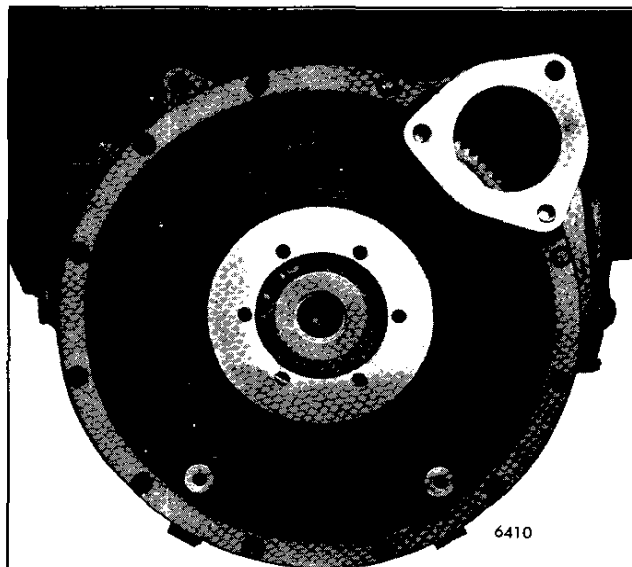

Fig. 1 - Marine Flywheel Housing Adaptor Cover
2. Remove the starting motor from the flywheel housing. On marine engines, remove the flywheel housing adaptor cover (Fig. 1).